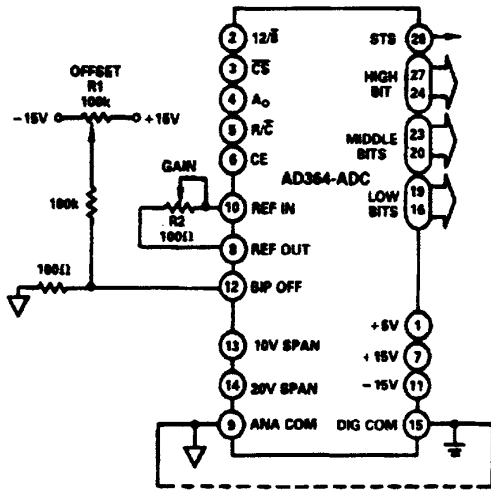

Figure 10a. Unipolar Gain & Offset
Offset Adjust, AD364-ADC: Offset adjust circuits for unipolar and bipolar operation are shown in Figures 10a and 10b. In each case the potentiometer should be a multi-turn, low temperature coefficient device, such as 20-turn cermet. Lowest offset drift in unipolar operation will be realized when the fixed resistors are low-TC (100 ppm/ $^{\circ}$ C) metal-film types.
*Refer to Figure 10a for gain and offset adjustments.